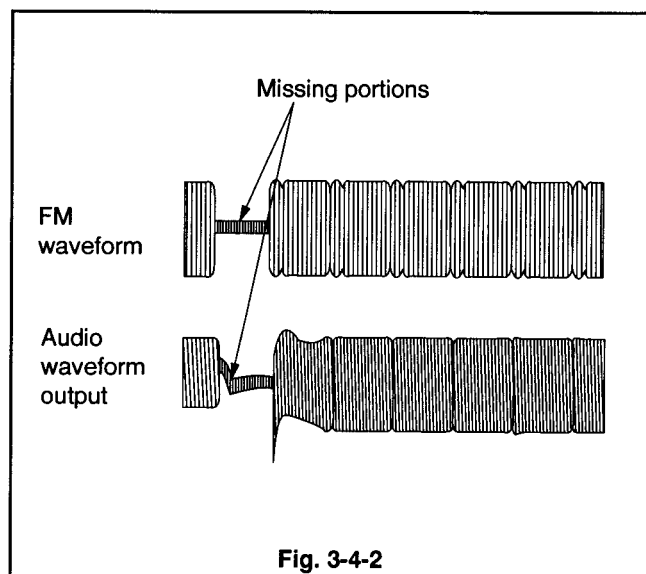

Fig. 3-4-2
- 6 Connect TP2A (the FM waveform output) and the audio output terminal to the oscilloscope, external Trig. to TP2H, and check if the missing portions of the FM waveform and that of the audio waveform are within the specified value (field). (Refer to Fig. 3-4-2.)